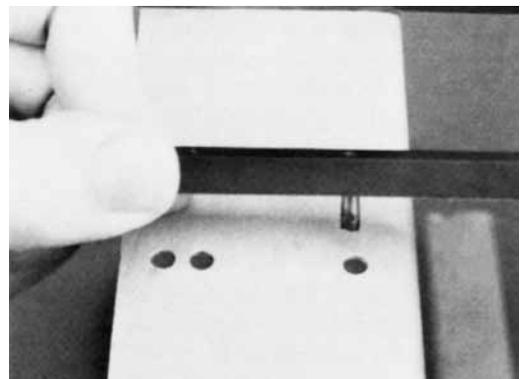

Figure 17
10. Attach the reversal adapter bar to the top of the cassette carrier main plate by inserting the dowel pin through the hole closest to the front of the plate (Figure 17). Secure the bar in position by attaching the screw from underneath.